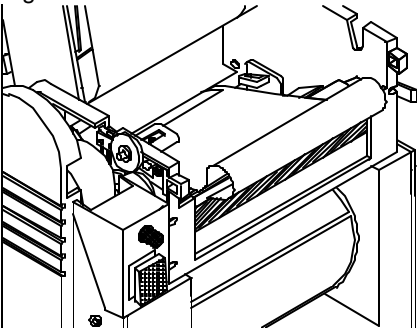

Fig. 2.5.1b
3. Press the stripper arm down to "on" position (see figure 2.5.1b)
6. Insert the front edge of the liner paper between the tear bar and the stripper roller (see figure 2.5.1b).